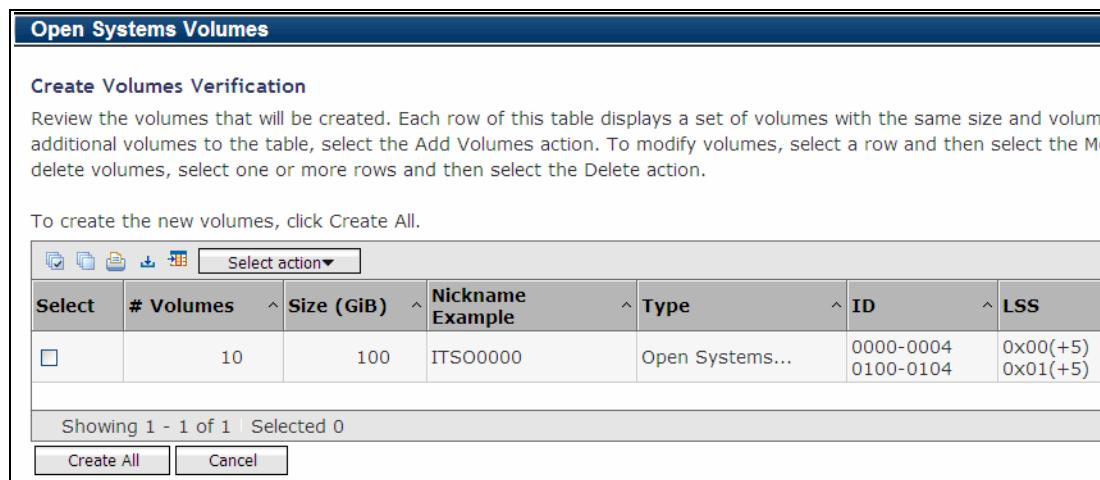

Figure 13-60 Create Volumes Verification window
- The Create Volumes Verification window shown in Figure 13-60 opens, listing all the volumes that are going to be created. If you want to add more volumes or modify the existing volumes, you can do so by selecting the appropriate action from the Select action drop-down list. Once you are satisfied with the specified values, click **Create all** to create the volumes.